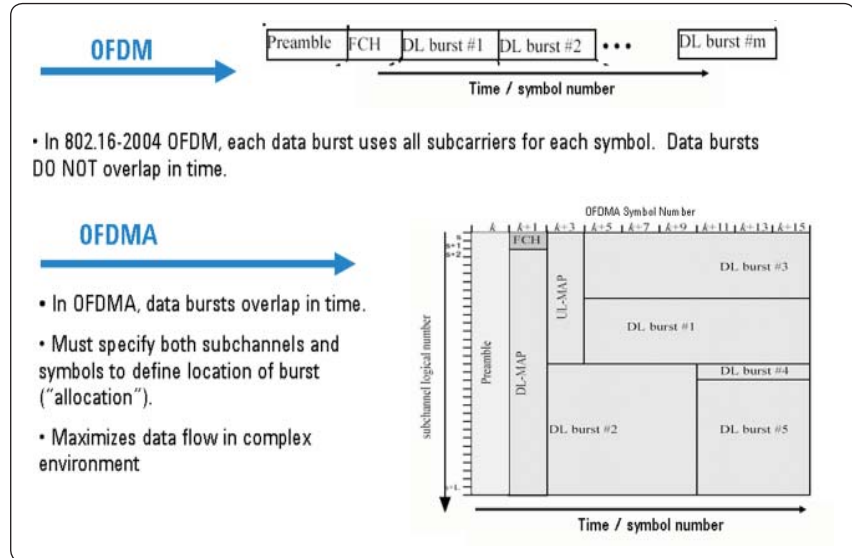

Figure 1. OFDM (fixed) and OFDMA (mobile) frame structures
Figure 1 shows the OFDM and Orthogonal Frequency Division Multiple Access (OFDMA) frame concepts. In OFDM, the downlink consists of the Preamble (P) followed by a Frame Control Header (FCH) and the subsequent bursts for the respective different subscribers. In OFDMA, the bursts are allocated according to a downlink map. The data bursts that overlap the same specifications maximise the data flow in a complex environment.